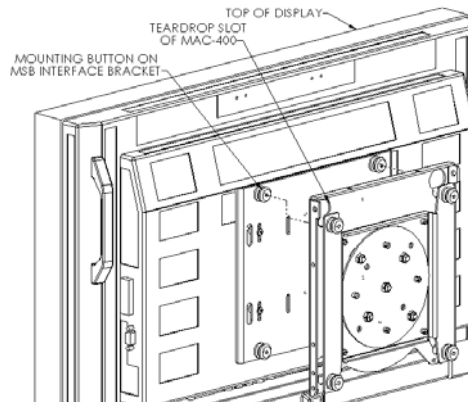

Figure 4
3. Attach MAC-400 to MSB Interface Bracket by placing the mounting buttons of MSB into the teardrop slots of MAC-400. Make sure the mounting buttons are placed securely in teardrop slots. See Figure 4.